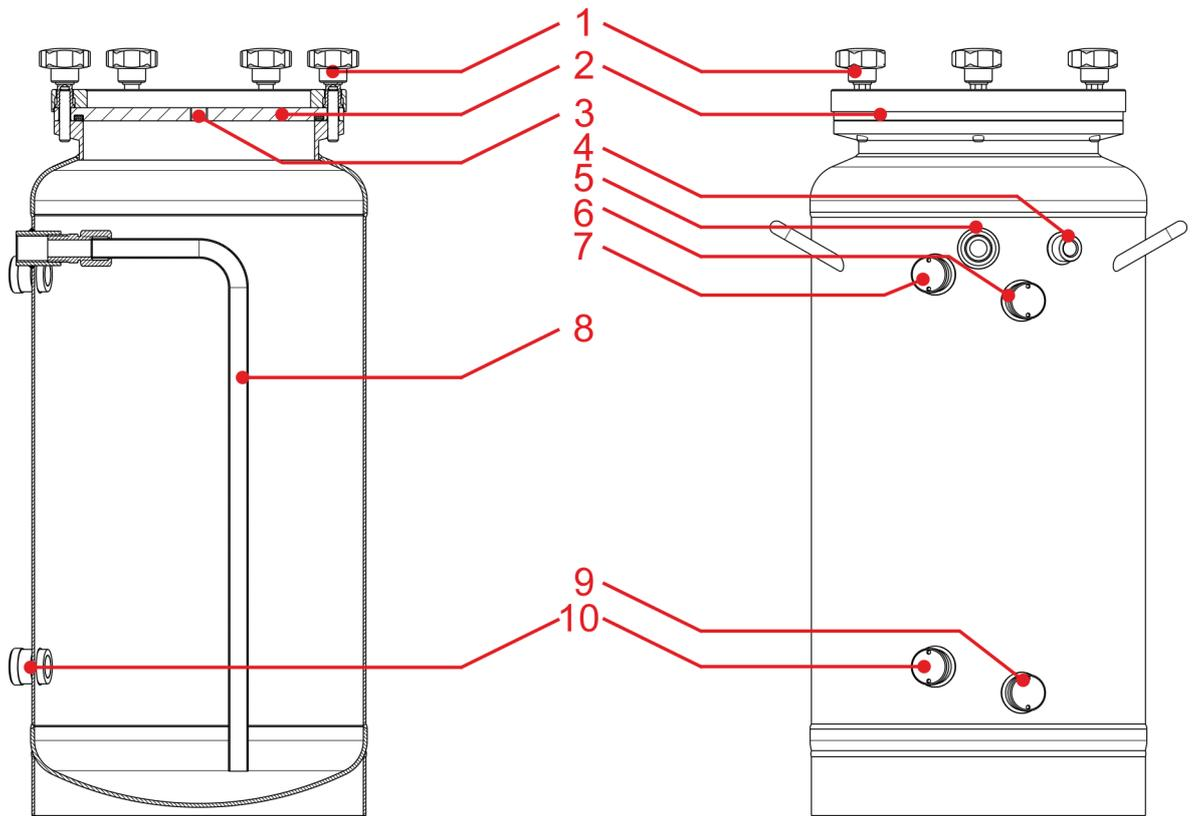

Fig. 3: Structure of the pressure vessel
The pressure vessel is equipped with a threaded sleeve for air connection G ¼" (Fig. 3, item 3 and 4) and a threaded sleeve for product connection G ½" (Fig. 3, item 5) in the upper area of the vessel jacket. In addition, there is an air connection thread G ¼" in the middle of the lid.